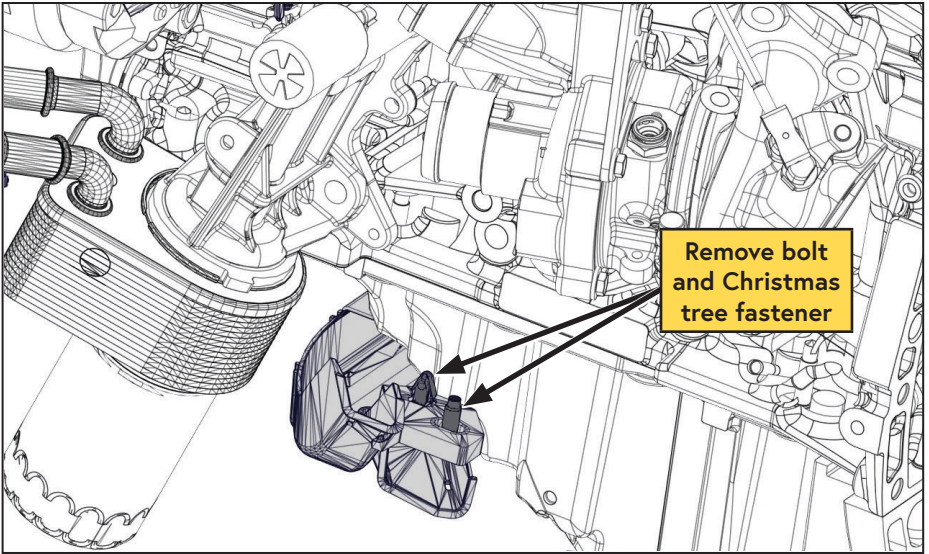

Figure 15 — Remove cable tray
- Remove the bolt and Christmas tree fastener from the driver side cable tray and set them aside for later (Figure 15).